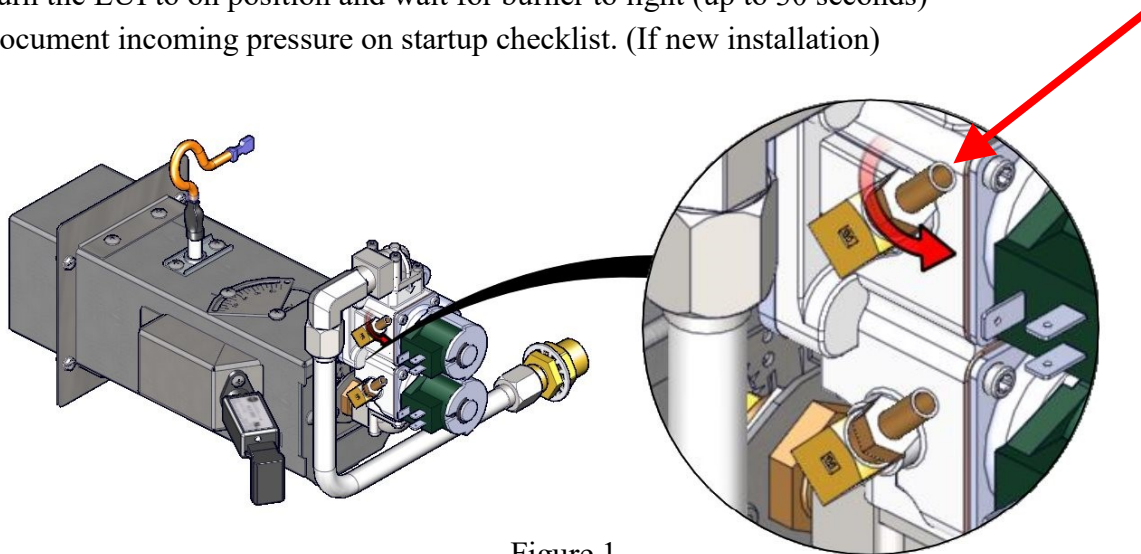

Figure 1
- Loosen screw one (1) full turn counter clockwise (Figure 1)